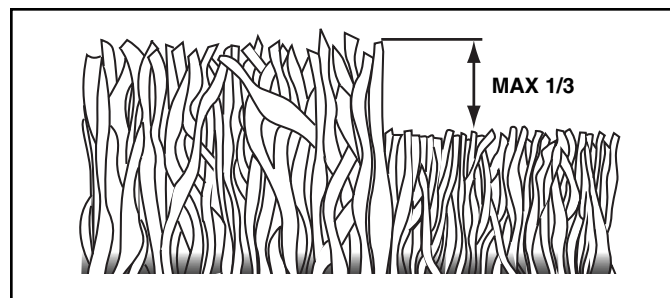

FIG. 14
- For best results, adjust the lawn mower cutting height so that the lawn mower cuts off only the top one-third of the grass blades (See Fig. 14). If the lawn is overgrown it will be necessary to raise the height of cut to reduce pushing effort and to keep from overloading the engine and leaving clumps of mulched grass. For extremely heavy mulching, reduce your width of cut by overlapping previously cut path and mow slowly.